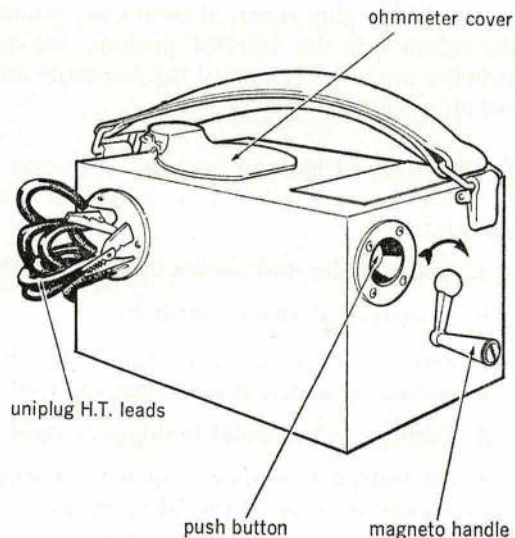

Fig 1.8.3 High tension ignition tester
14. The high voltage required for the test is supplied by a Mk 2 High Tension Ignition Tester, illustrated at Fig 1.8.3, for which the servicing is described in the next paragraph. To